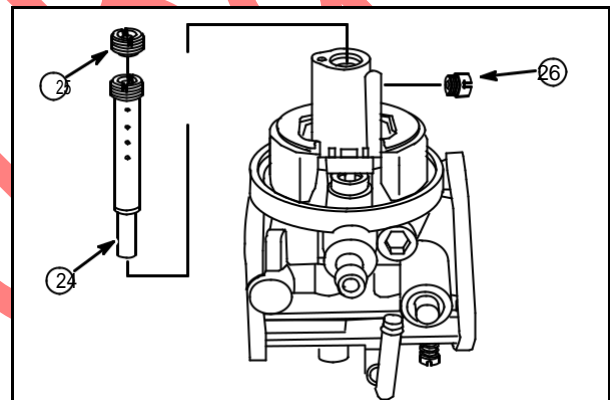

Fig. 56
Install emulsion tube (24), **Fig. 56**, using Screw-driver #19062.